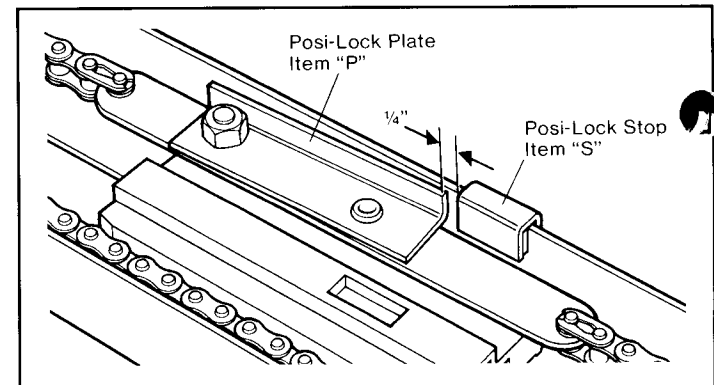

Figure 29
Step 71: Clamp the Posi-Lock STOP to the channel rail at a point exactly 1/4" from the Posi-Lock PLATE, screws to the outside (see Figure 29).